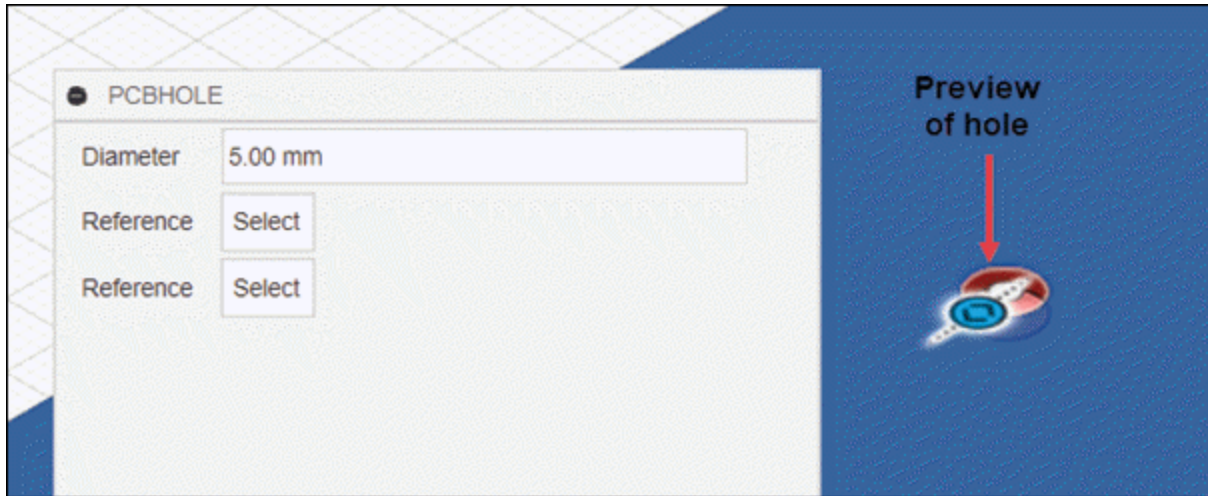

Figure-134. Preview of hole on PCB
- Select the face of PCB where you want to place the hole. Preview of hole will be displayed; refer to Figure-134.